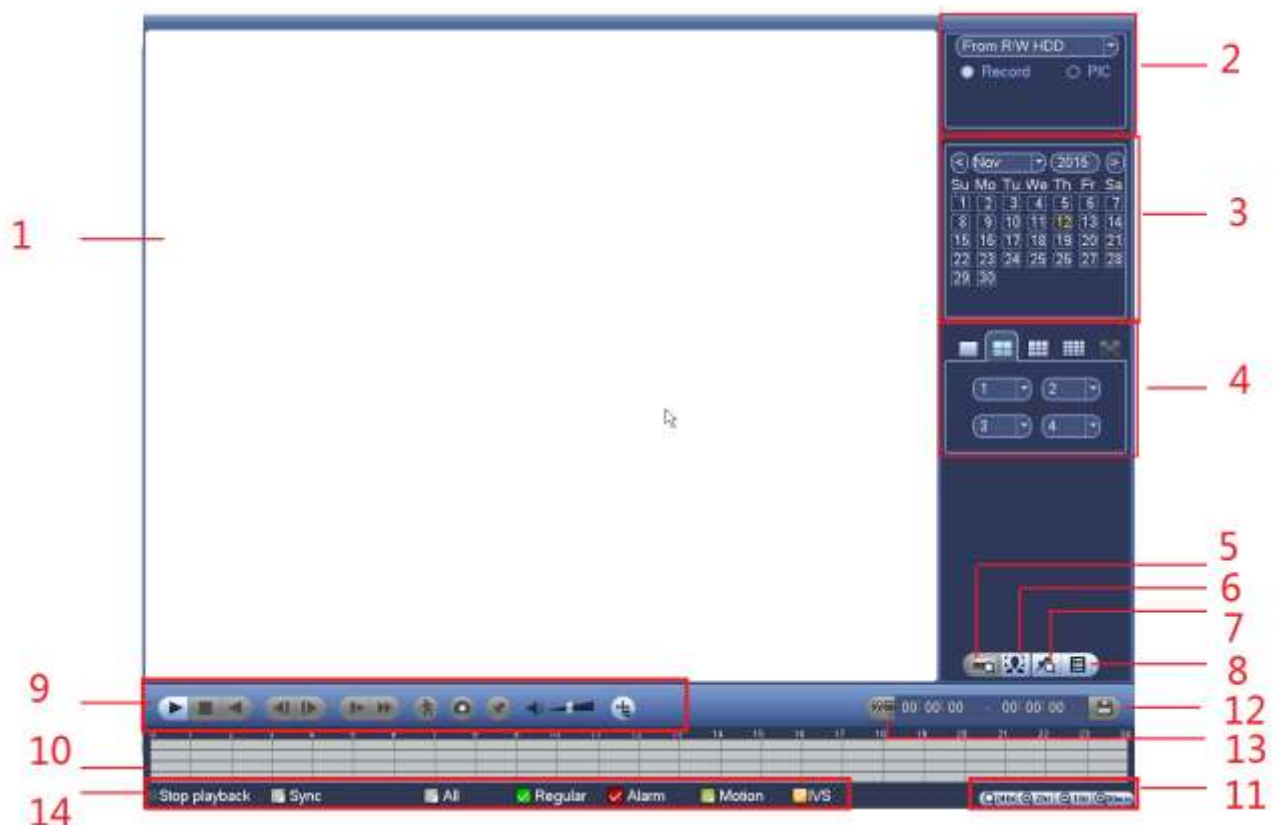

Figure 4-96
From Main menu->Search, or on the preview interface right click mouse and then select search item, you can go to the following interface. See Figure 4-96 or Figure 4-97.
**Please make sure your purchased device support this function. You can use this function only if you can see the mark playback icon on the Search interface (Figure 4-96 or Figure 4-97).**
During 1-window playback mode, click mark file list button  in Figure 4-96 or Figure 4-97, you can go to mark file list interface. Double click one mark file, you can begin playback from the mark time.